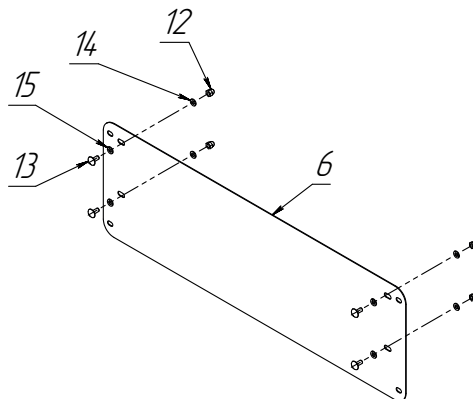

Figure 14.
Fasten the screws (13) on the plate (6) with cup nuts (12), silicon washers (14), and washers (15), as shown in Figure 14.
- Fix the device onto 4 bolts (Pos.14) shown in Figure 14;